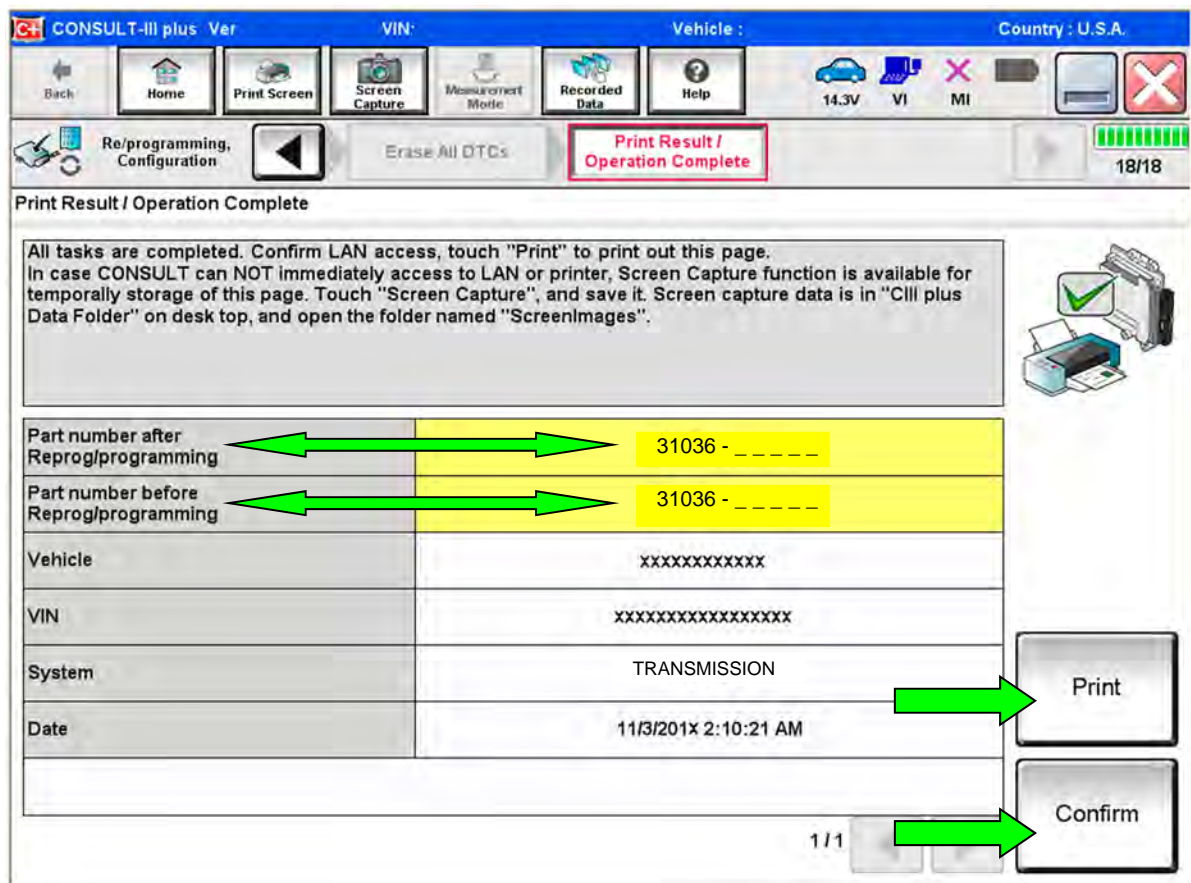

Figure 174
- When the entire reprogramming process is complete, the screen in Figure 174 will display.
148. Print a copy of this screen (Figure 174) and attach it to the repair order for warranty documentation.